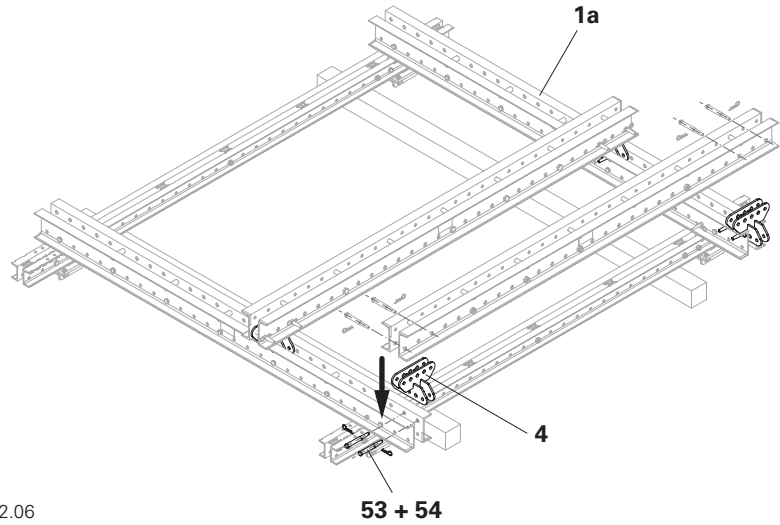

Fig. B2.06
1. Fasten the Cross Connector RCS (**4**) to the assembly position of Climbing Rail RCS (**1a**) with fitting pin \varnothing 26 x 120 (**53**) and secure with cotter pin (**54**). (Fig. B2.06)